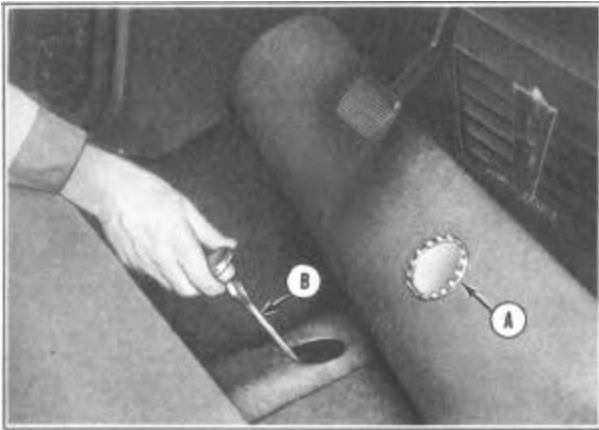

FIGURE 142
2. If front floor carpet has an access opening for the transmission filler, remove two screws and take off cover. If access hole is not in carpet, loosen front floor carpet and mat and disconnect accelerator pedal. Roll away the left side of the carpet until the inspection hole cover (A) is exposed, Figure 142.